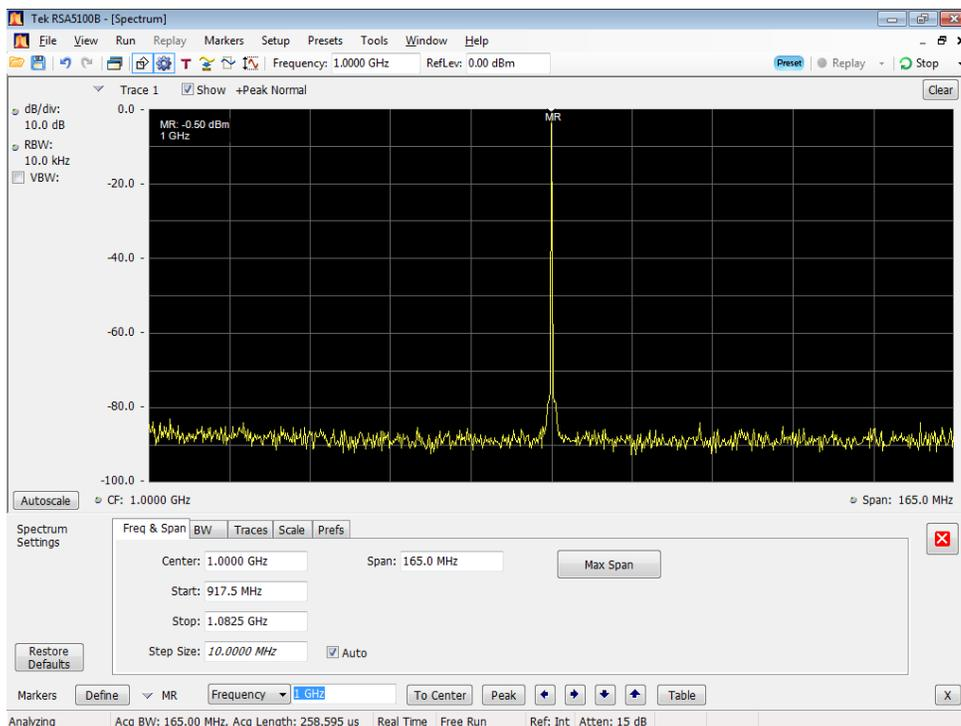

Figure 7: 1 GHz output waveform – no filter
12. Check that the Channel 1 waveform is properly displayed on the signal analyzer screen. (See Figure 7.)